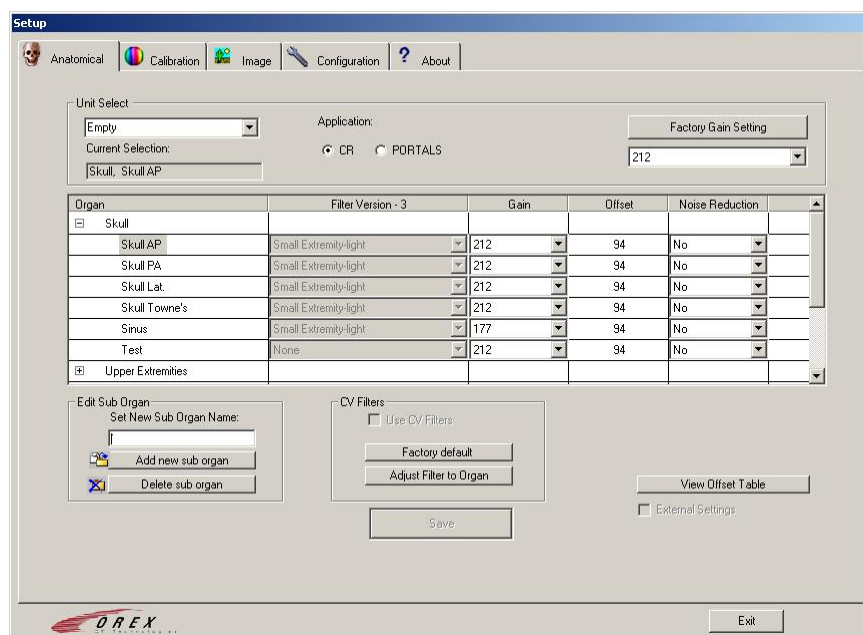

Figure 12: The Setup Dialog Box
3. Click **OK**. The Setup dialog box opens with the Anatomical tab selected (Figure 12).